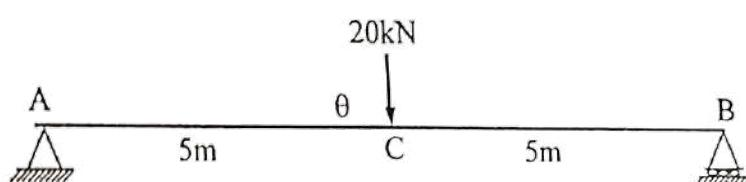

Figure 5
- A beam AB of span 10m is carrying a point load of 20kN at its centre. Determine the reactions at the supports, using principle of virtual work. (See Figure 5).